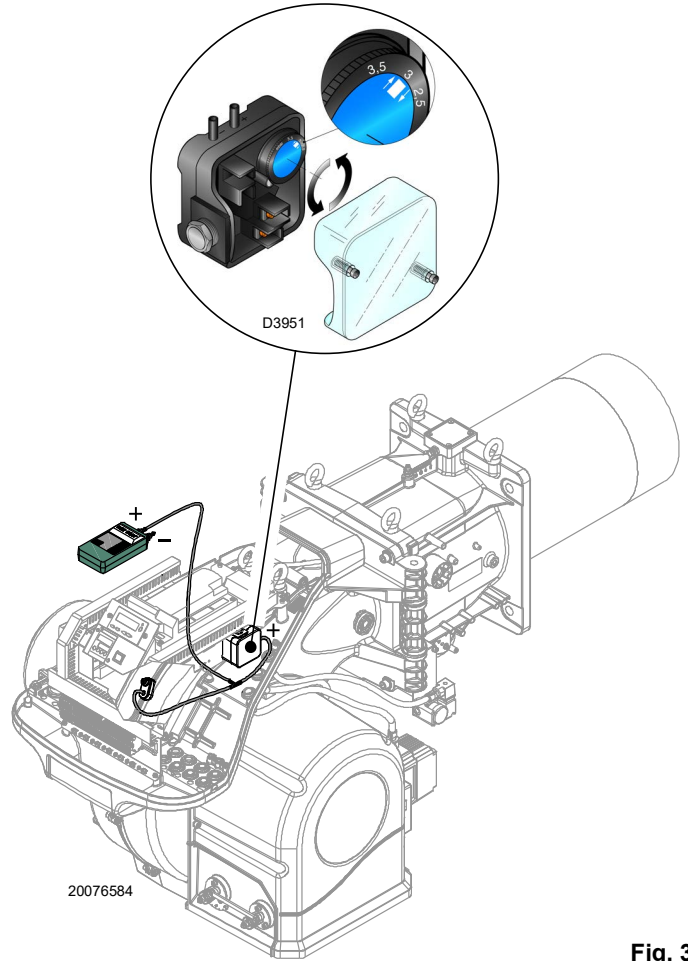

Fig. 38
- Adjust the air pressure switch (Fig. 38 on page 33) to the start of the scale.
Adjust the air pressure switch (Fig. 38) after performing all other burner adjustments with the air pressure switch set to the start of the scale.
The connection of the pressure gauge is shown in Fig. 38. The standard configuration is that with the air pressure switch connected in absolute mode. Note the presence of a "T" connection, not supplied.